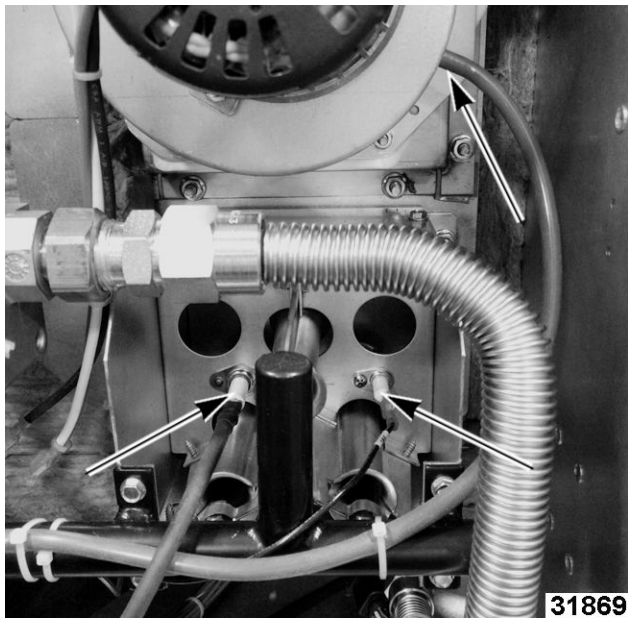

Fig. 104
5. Remove ignitor wire, flame sense wire, and air pressure hose (Fig. 104).